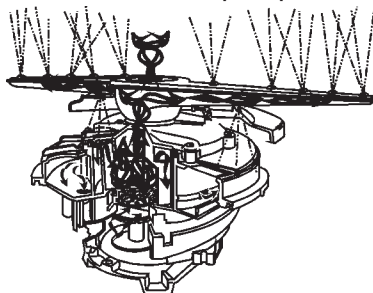

Fig. 2-2
1. Once the tub has filled with hot water the motor begins to rotate forcing the water up through the pump chamber and out through the spray arms. Two spray jets on the underside of the lower spray arm direct water down onto the fine mesh screen of the pump housing to clear soils that may collect there during the wash cycle. (Fig. 2-2)